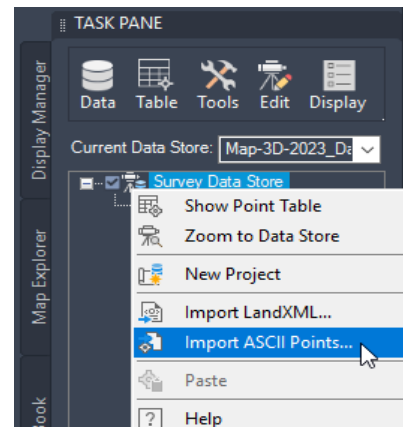

Figure 2-36 Choosing the **Import ASCII Points** option from the shortcut menu
2. Choose the **Import ASCII Points** option from the shortcut menu, as shown in Figure 2-36; the **Import ASCII Points** dialog box is displayed.